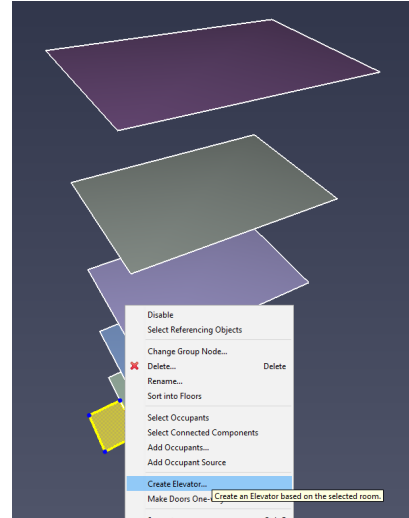

Figure 69. Select Create Elevator in right-click menu
3. Right-click the base room, and from the right-click menu, select **Create Elevator**, see Figure 69. This will show the **New Elevator** dialog as shown in Figure 70.